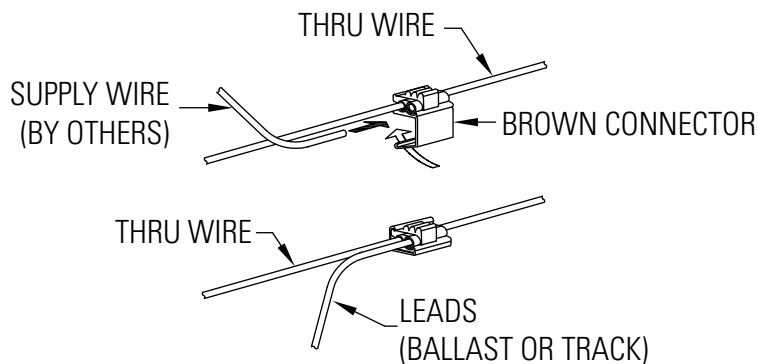

Figure 7
Snap BROWN CONNECTOR from parts bag to 12ga. THRU WIRE in CHANNEL, insert SUPPLY WIRE into second slot in BROWN CONNECTOR and crimp connection with pliers. (Fig. 7)
- B. Insert POWER CORD WIRE into second slot in BROWN CONNECTOR and crimp connection with pliers. (Fig. 7)